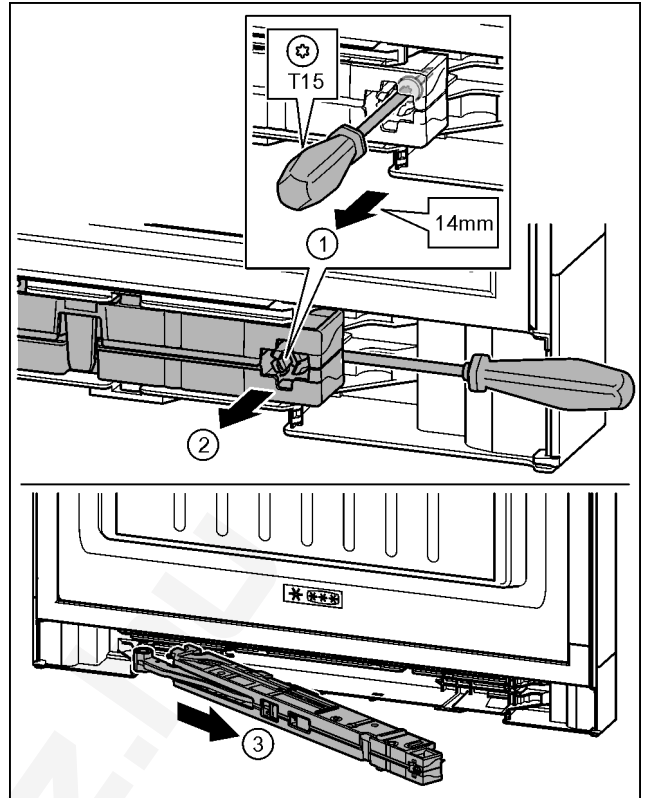

Fig. 19
- Undo the screw on the soft stop mechanism about 14 mm with a T15 screwdriver. Fig. 19 (1)
- Insert the screwdriver on the handle side behind the soft stop mechanism. Turn the unit forwards. Fig. 19 (2)
- Remove the unit. Fig. 19 (3)